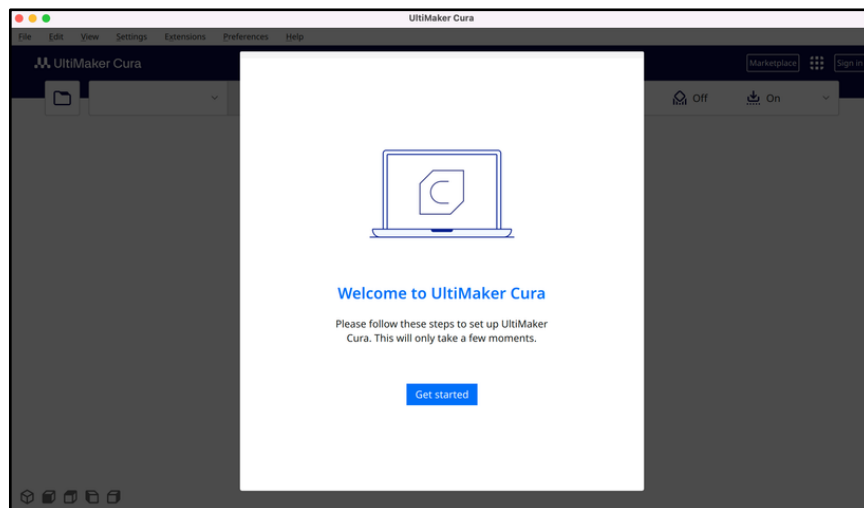

Figure 2: Opening and Then Immediately Closing UltiMaker Cura
3. Open and then immediately close UltiMaker Cura once the software installation is complete (See Figure 2).